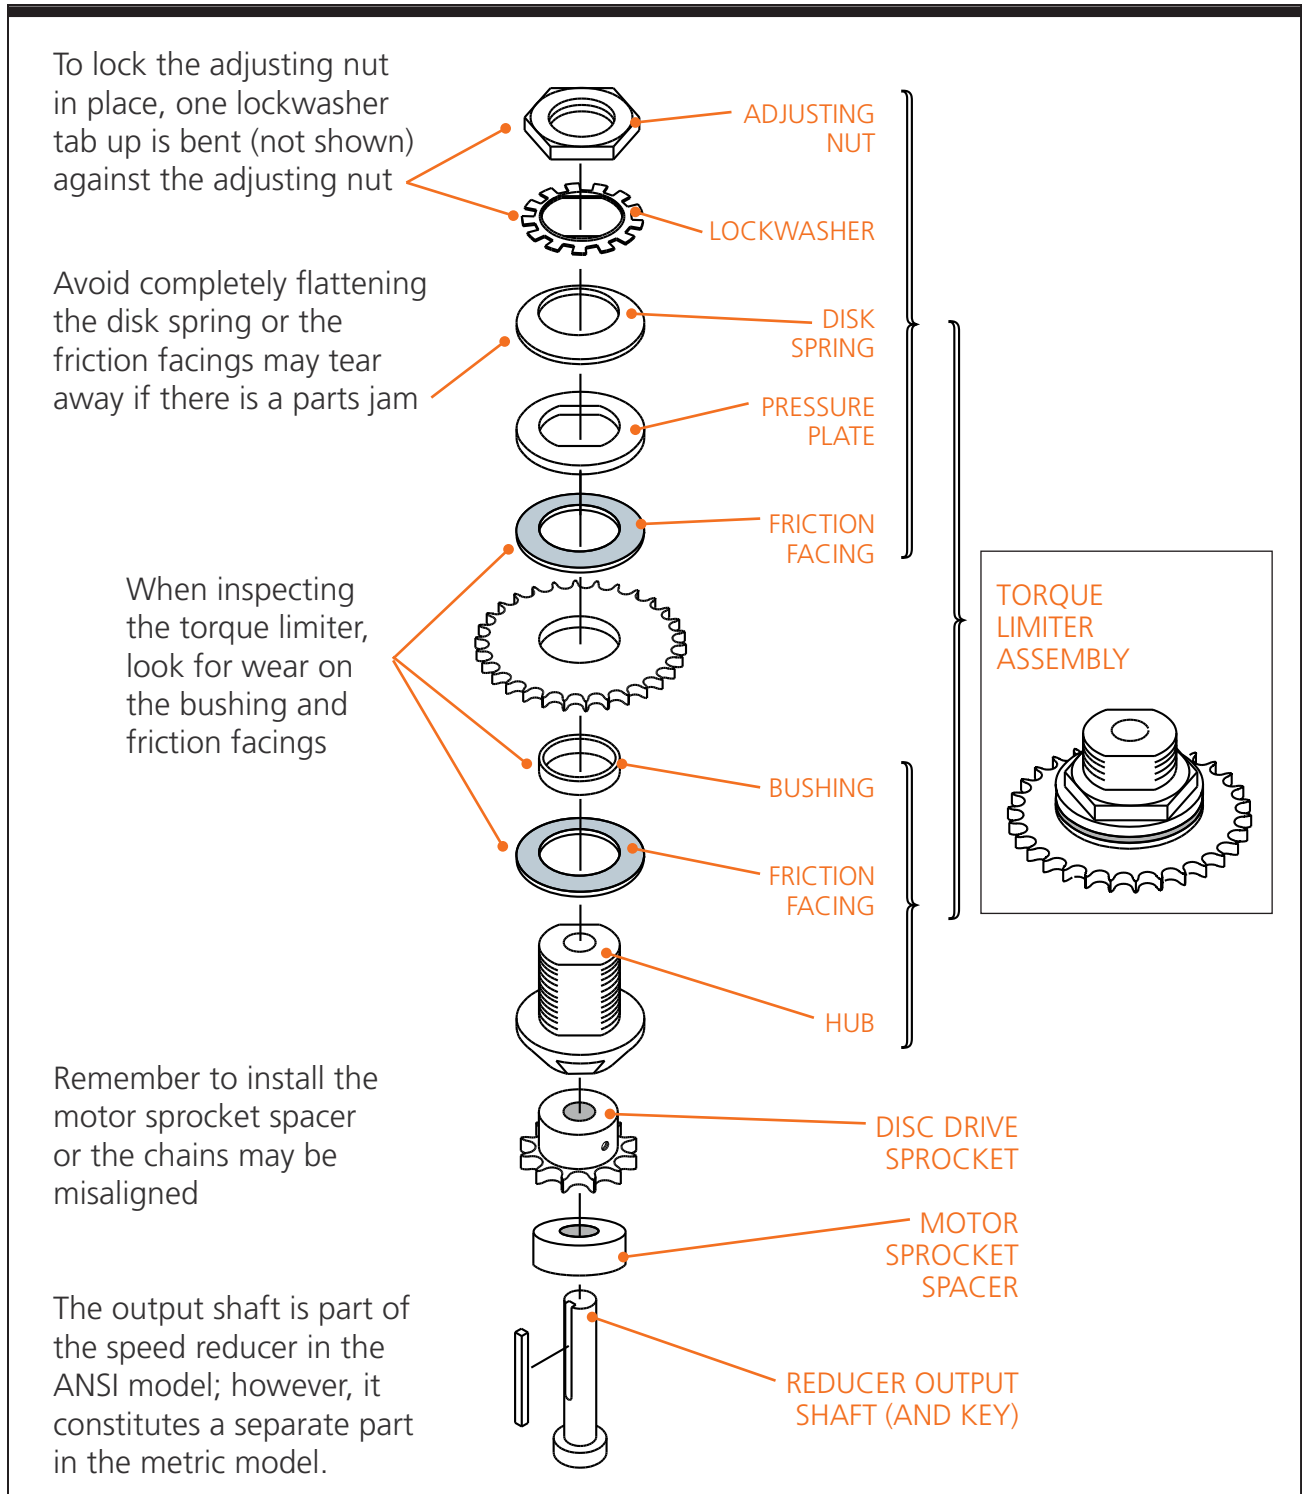

Figure 5-1. Torque Limiter Assembly (Exploded View and Assembled View)
Step 3—Remove Torque Limiter. Remove and disassemble torque limiter. Inspect and replace any broken or worn parts. Observe order of components (see Figure 5-1).